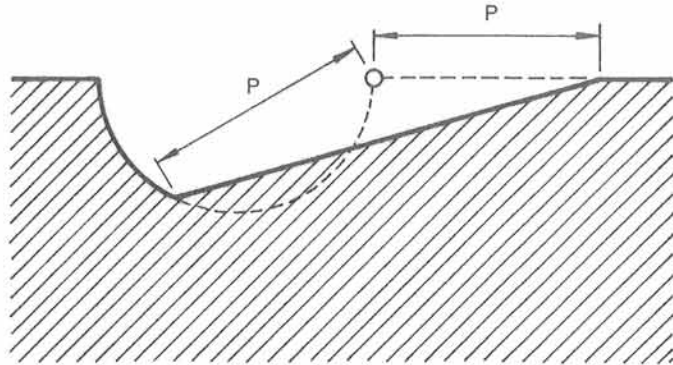

Fig. 4.48 Chamfering between Arc Block and Linear Interpolation Block
- Even if the programmed shape is distorted due to the execution of chamfering or corner rounding, these commands are executed. For example, although the chamfering command between the arc block and linear interpolation block causes a path which cuts the inside of the programmed arc as shown in Fig. 4.48, chamfering is executed as programmed.